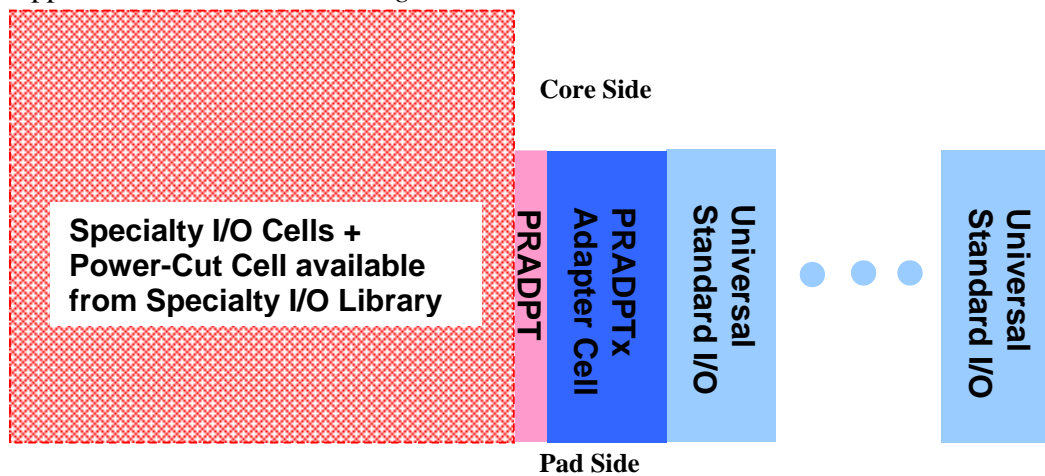

Figure 7.21 Place Cells from Specialty I/O Library
Step 4: For how to place specialty I/O cells, please refer to specialty I/O application note for details. *Figure 7.21* is an illustration.